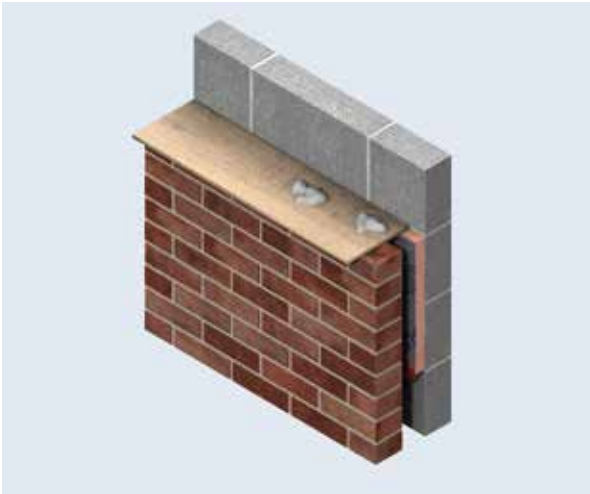

Figure 7 – Use of a Cavity Board to Protect the Cavity and Insulation Board Top Edge
- Use of a cavity batten or cavity board is recommended to protect board edges and maintain a clear cavity (see Figures 7 & 8 or refer to BBA Certificate 14/5134).